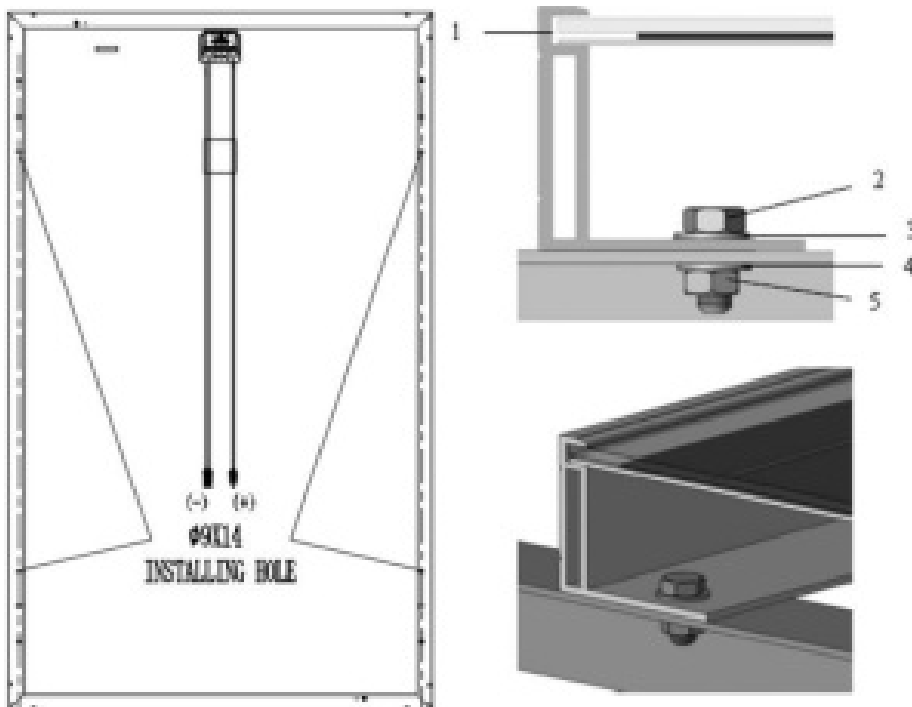

Figure 5. SPV module installed with Bolt fitting method
- Secure the module in each fixing location with an M8 bolt and a flat washer, spring washer and nut as shown in Figure 5 and tighten to a torque of 140 lbf*in.